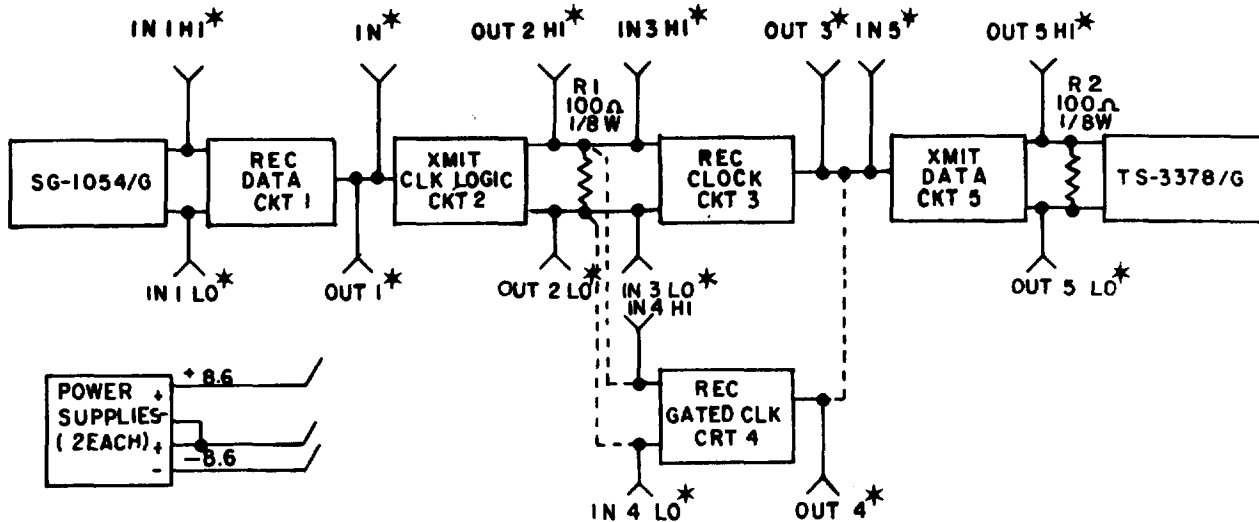

Figure 6-14. INTERFACE ±6 V DATA FUNCTIONAL TEST LAYOUT
(2)  $\pm 6$  V  $\pm 1$  V DATA TEST PROCEDURES. (See figure 6-14.)